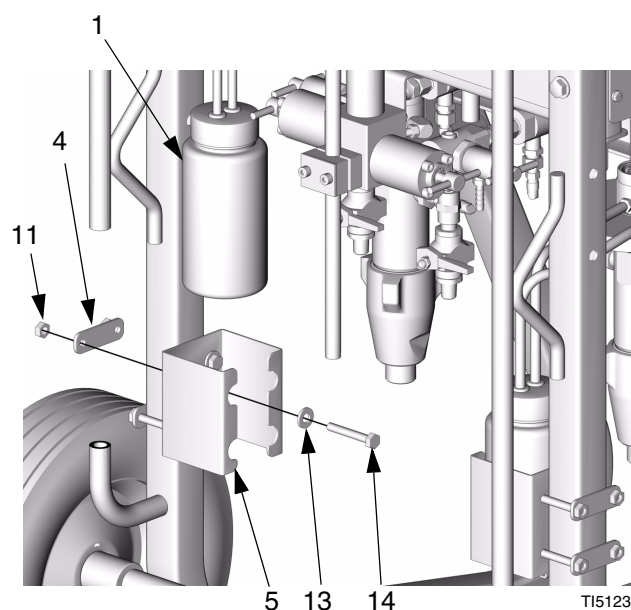

FIG. 3
4. For cart mount, install brackets (4, 5) on square tube adjacent to pump. Secure with screws (14), washers (13), and nuts (11). See FIG. 3.